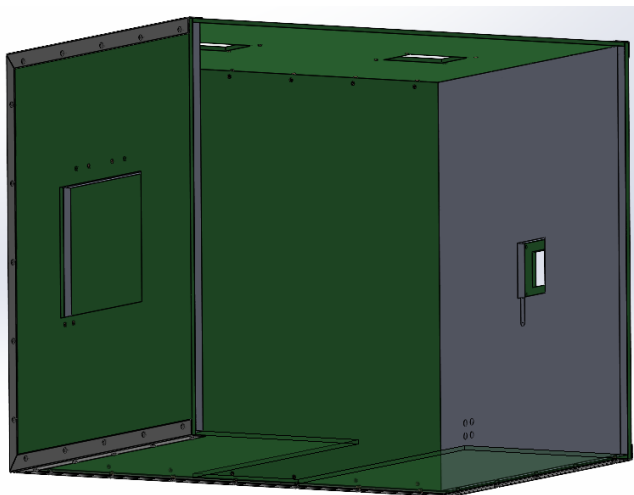

Fig. 13. Front and back insulation installed in the chamber assembly.
7. Add the front and back insulation to the front and back acrylic, see Fig. 13.